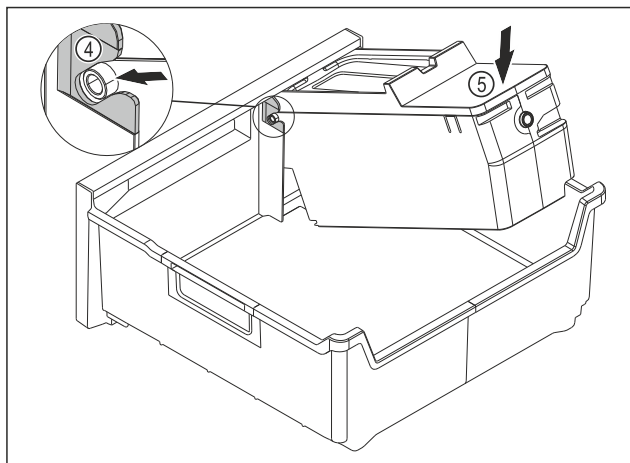

Fig. 95
- Installing the EasyTwist-Ice body: Insert the axes of the EasyTwist-Ice body into the guides Fig. 95 (4).
- Press down the EasyTwist-Ice body Fig. 95 (5) at the rear.